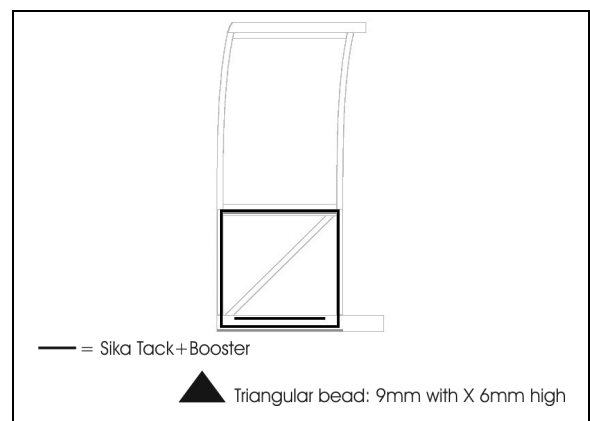
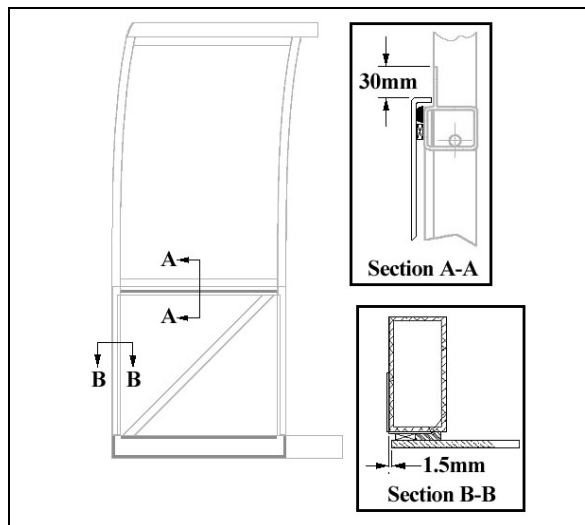

FIGURE 43 : SIDE PANEL INSTALLATION – SIKA TACK+BOOSTER APPLICATION
FIGURE 44 : SIDE PANEL INSTALLATION
4. Apply Sika Tack+Booster (triangular bead: 9mm width X 6mm high) as shown in FIGURE 43 and glue panel in place as shown in FIGURE 44